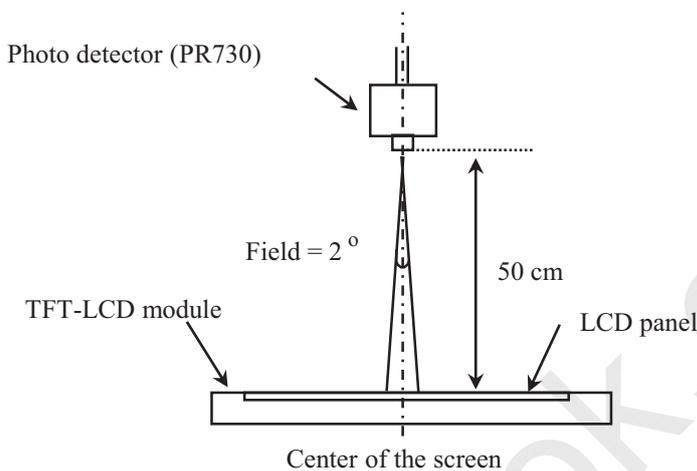

Figure 7. Measurement Set Up
- Viewing angle is the angle at which the contrast ratio is greater than 10. The viewing angles are determined for the horizontal or 3, 9 o'clock direction and the vertical or 6, 12 o'clock direction with respect to the optical axis which is normal to the LCD surface (see Figure 7).
- Contrast measurements shall be made at viewing angle of $\Theta=0$ and at the center of the LCD surface. Luminance shall be measured with all pixels in the view field set first to white, then to the dark (black) state . (see Figure 7) Luminance Contrast Ratio (CR) is defined mathematically.
Center Luminance of white is defined as luminance values of center 5 points across the LCD surface. Luminance shall be measured with all pixels in the view field set first to white. This measurement shall be taken at the locations shown in Figure 7 for a total of the measurements per display.